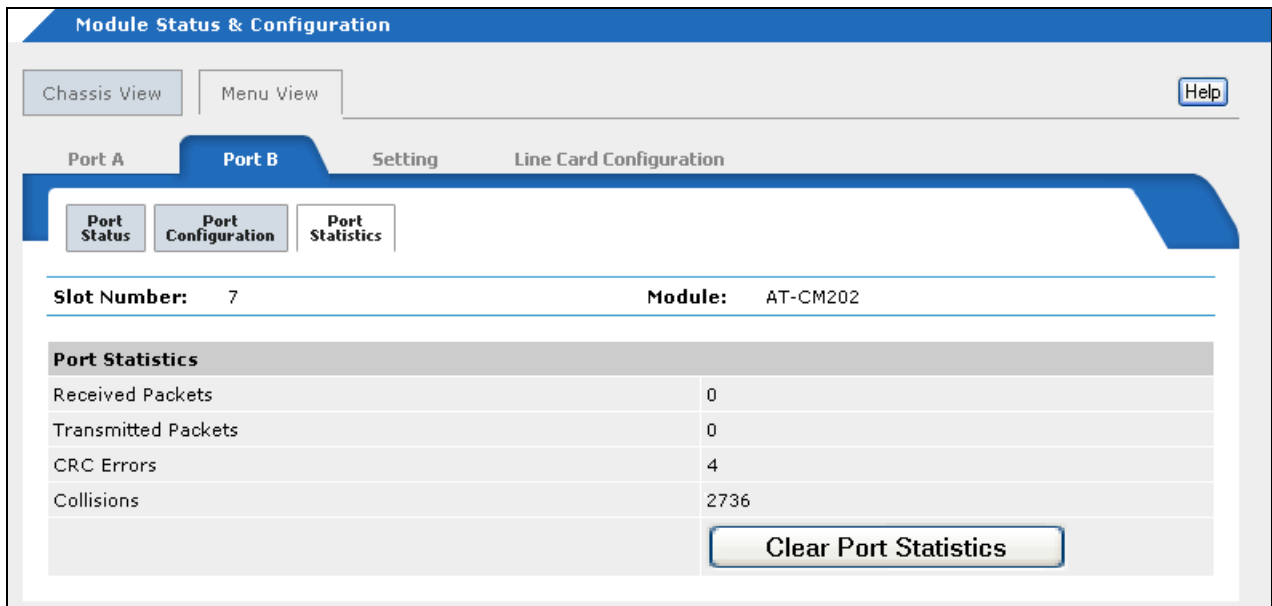

Figure 67. Port Statistics Window
4. Click the **Port Statistics** tab to display the Port Statistics window for the port you selected. The example in Figure 67 is for Port B, the twisted pair port, on the AT-CM202 Line Card. The window has four statistics counters. However, only the AT-CM2KOS Line Card supports all four counters. The other AT-CM Line Cards support just the CRC errors counter and the collisions counter.